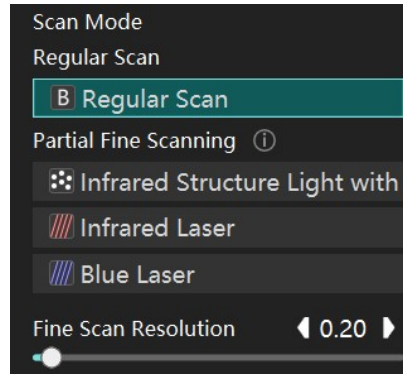

Figure 7-17 Parameters of Partial Fine Scanning
2. In far-distance scanning, the left control panel provides two scan mode options in the "Scan Mode" column, which is shown in Figure 7-17: